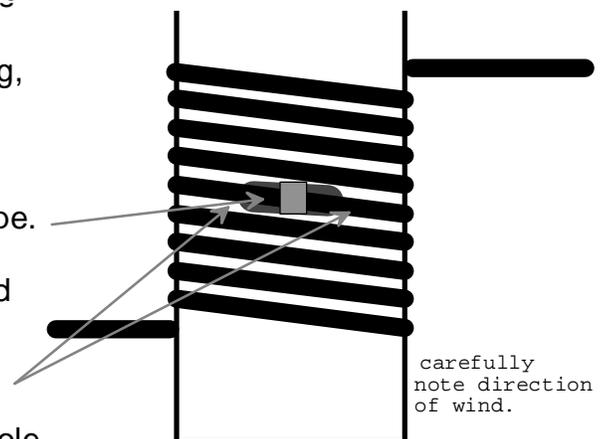

fig. 1
1. New cable is pre-bent at a certain spot. Push this bend into Adjuster Pipe hole so that end with shackle leads to back of machine. (After winding, the cable will leave pipe at bottom as in fig. 1. and shackle will go towards front of machine)
5. Wrap the shackle end around pipe so as to follow a left hand thread as shown in fig. 1.
**Important:** *On earlier Treadwalls, the cables were wound as a right hand thread. Even if only one cable is being replaced, both cables must be wound the same way. Check the other cable and rewind it if it is not like fig. 1. Also, both cable guards will have to be replaced in this case to accommodate the new winding.*